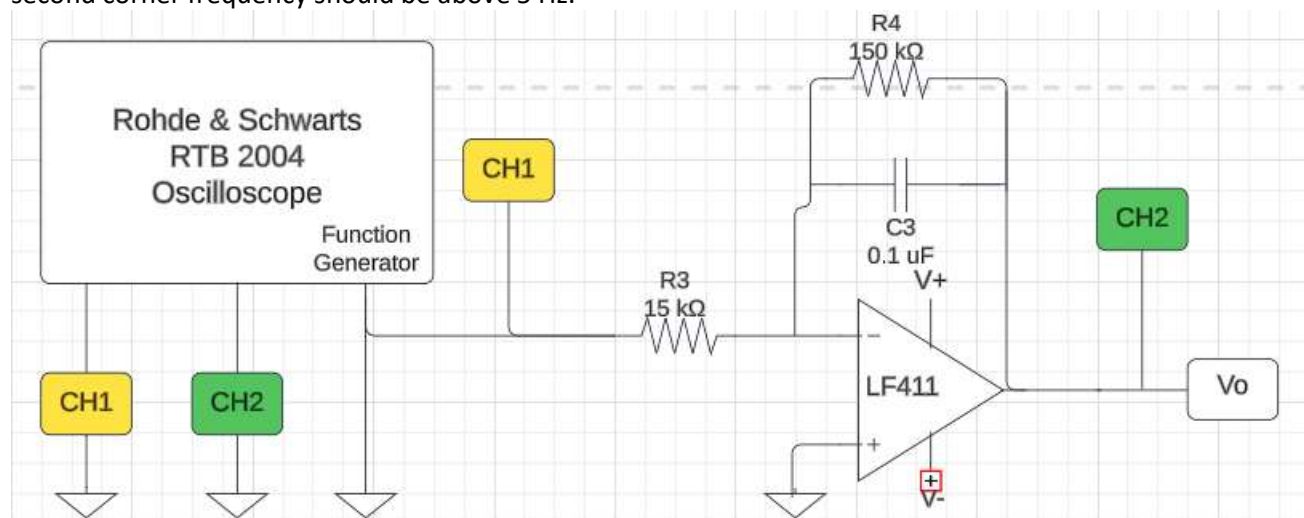

Figure 4: Circuit schematic of active low pass filter with an LF411 and recommended component values
4. Repeat steps 1-2 for the active low pass filter in Figure 4.